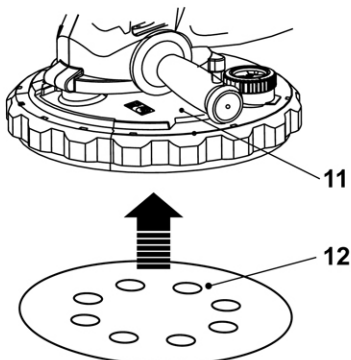

Fig. 2
- > Align the hole pattern of the sanding paper (12) with the one in the base plate (11) before attaching the sanding paper (12) to the base plate to ensure efficient dust extraction and a satisfactory result.
- > Slightly press the sanding paper (12) to fix it to the base plate (11) (Fig. 2).